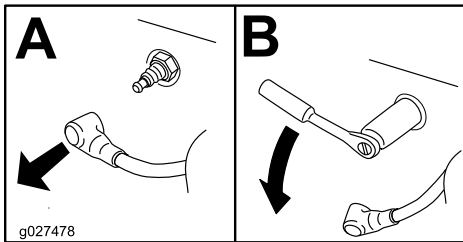

Figure 59
4. Locate and remove the spark plug(s) as shown in Figure 59.